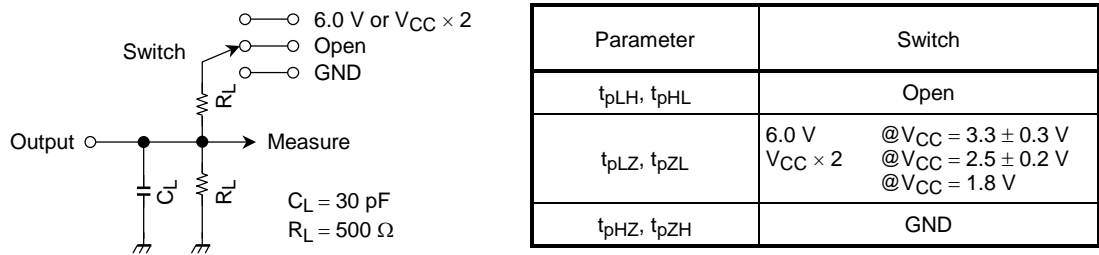

Figure 1
| Maximum clock frequency | fmax | Figure 1, Figure 2 | 1.8 | 100 | — | MHz |
| Propagation delay time (CK-Q) | tpLH tpHL | Figure 1, Figure 2 | 1.8 | 1.5 | 8.8 | ns |
| Propagation delay time (CLR-Q) | tpHL | Figure 1, Figure 3 | 1.8 | 1.5 | 9.2 | ns |
| 3-state output enable time | tpZL tpZH | Figure 1, Figure 4 | 1.8 | 1.5 | 9.8 | ns |
| 3-state output disable time | tpLZ tpHZ | Figure 1, Figure 4 | 1.8 | 1.5 | 7.6 | ns |
| Minimum pulse width (CK, CLR) | tW (H) tW (L) | Figure 1, Figure 2, Figure 3 | 1.8 | 4.0 | — | ns |
| Minimum set-up time (D, CKEN) | ts | Figure 1, Figure 2, Figure 5 | 1.8 | 2.5 | — | ns |
| Minimum hold time (D, CKEN) | th | Figure 1, Figure 2, Figure 5 | 1.8 | 1.0 | — | ns |
| Minimum removal time | trem | Figure 1, Figure 6 | 1.8 | 4.0 | — | ns |